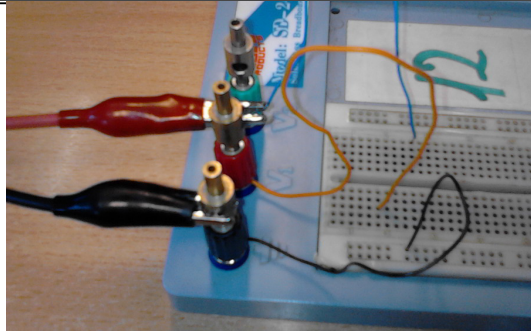
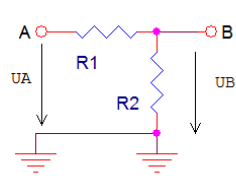

Figure 7: connecting the alligator clips to the breadboard
Figure 10a
- connect the 2 alligator clips of the digital multimeter to 2 terminals of the breadboard, as seen in figure 7. Place the multimeter in mode “continuity” (using key **15** – Annex C). The 2 wires already connected to screws at one end are used for the following tests:
- holes from different halves of the breadboard, from the same horizontal bus strip – buzzer must not sound (obs.: in fig. 7 only a part of the breadboard is shown, up to column 30);
In figure 10a, if we denote  $U_{1,2}$  respectively as the voltages across  $R_{1,2}$ :
#### a) measuring the divider in fig. 10a
- build the divider in fig. 10a on the breadboard; it is recommended to connect the points A and B, by using wires, to the screw connectors **V1**, **V2** and ground  $\equiv$  on the breadboard (fig. 7); the ground is common for input and output: